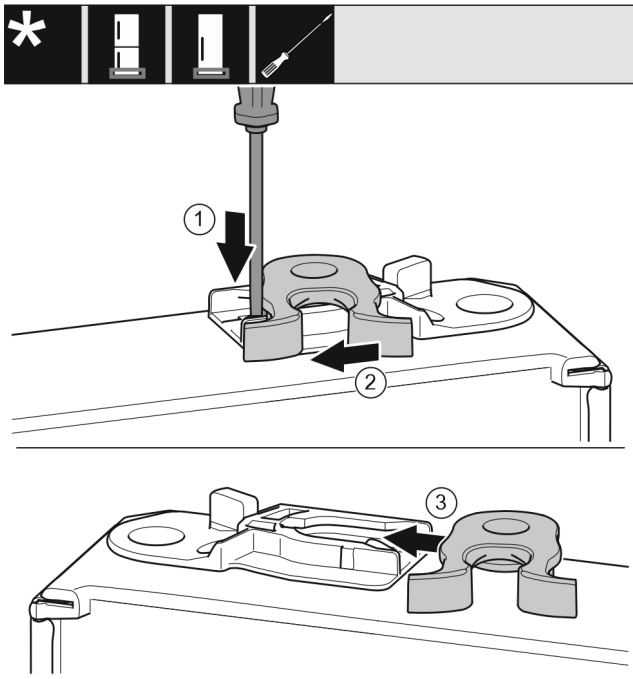

Fig. 18
- ▶ Use a slotted screwdriver to push the tab Fig. 18 (1) downwards.
- ▶ Pull the closing hook Fig. 18 (2) out of the guide.
- ▶ Insert the closing hook Fig. 18 (3) into the guide on the other side.